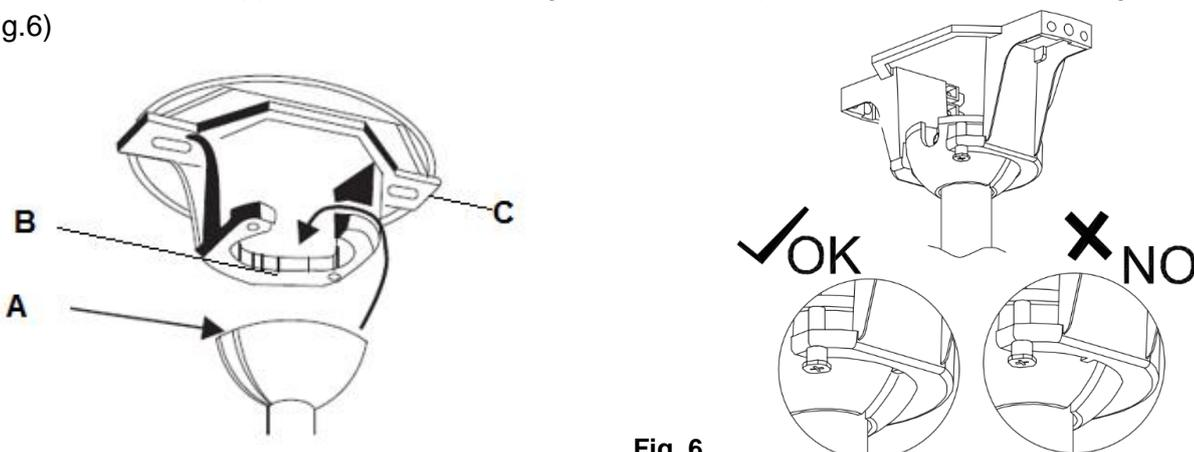

Fig. 6
Lift the fan assembly onto the mounting bracket. Ensure the registration slot (A) of the hanger ball is positioned on the stopper (B) of the mounting bracket (C) to prevent the fan from rotating when in operation. (Fig.6)